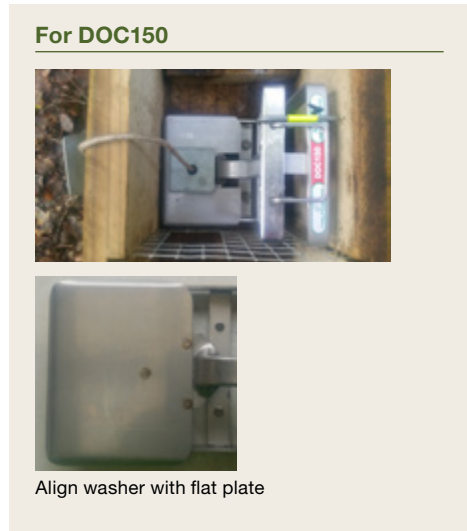
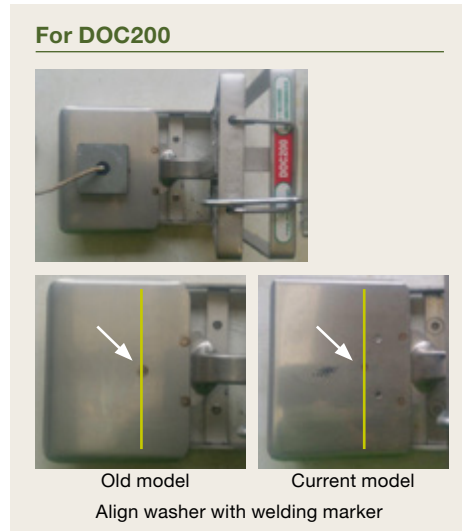

Figure 8.
Figure 9.
4. Accurate placement of the test weight on the treadle (plate) varies between DOC series models. For correct position of weight refer to Figure 8 for testing DOC 150 traps and Figure 9 for testing DOC 200 traps.